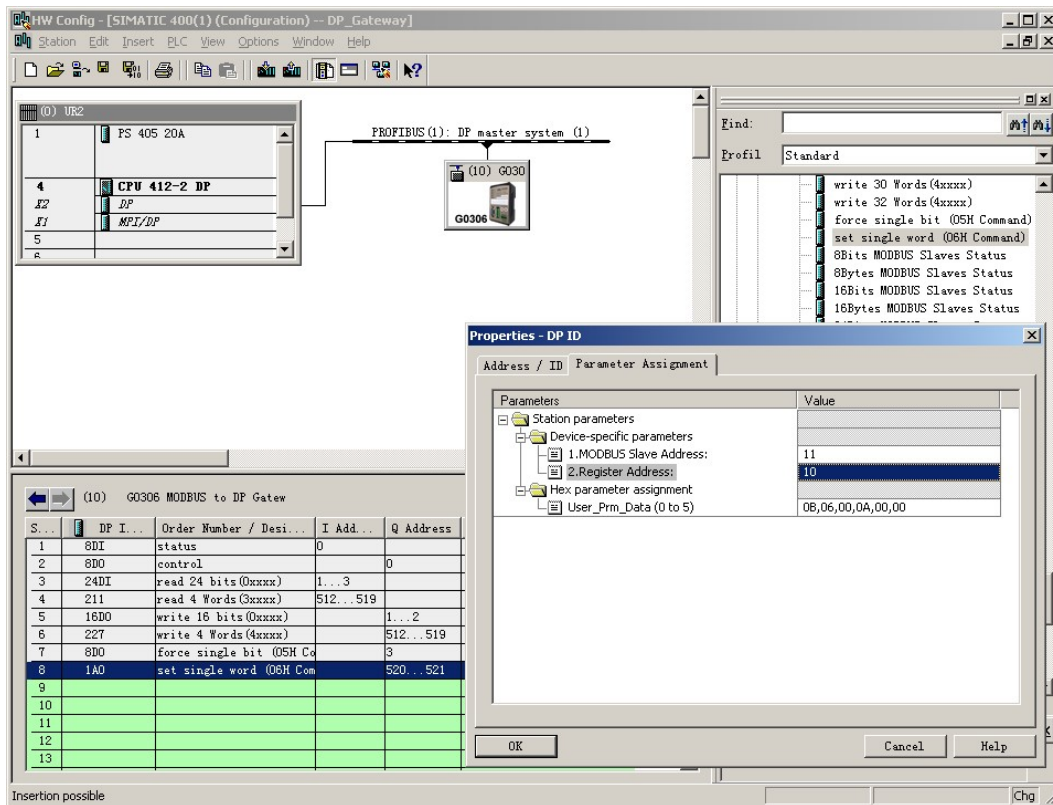

Figure 32 Configure "set single word (06H Command)" module user parameters
**b) Configure the user parameters of the "set single word (06H Command)" module, as shown in Figure 32:**
"1.MODBUS Slave Address:" ⇒ Type in Modbus slave address 11, as shown in Figure 32
"2. Register Address:" ⇒ Type in the address 40011 to be written to the register 4xxxx, set the address to 10 ⇒ "OK", Figure 32